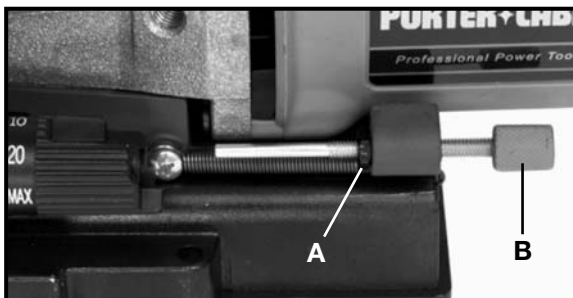

Fig. 3
1. Use an $\frac{7}{16}$ " wrench to loosen lock-nut (A) Fig. 3.
2. Rotate fine adjustment knob (B) Fig. 3, to desired position (rotate knob clockwise to reduce depth of cut, rotate knob counterclockwise to increase depth of cut).